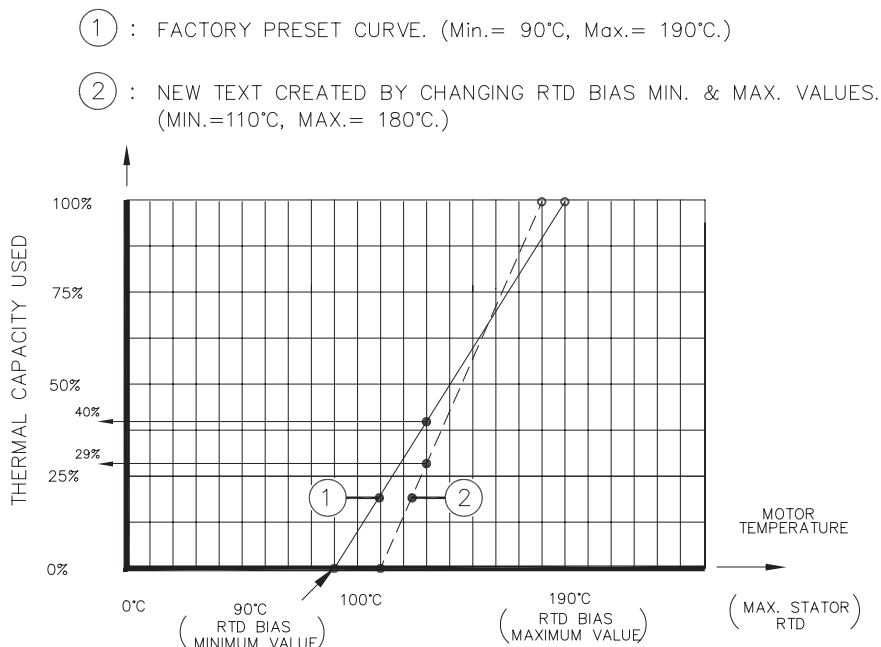

Figure 3-4 Hot Motor Thermal Capacity Reduction
When the hottest stator RTD temperature is included in the thermal memory (SETPOINTS mode, page 5; factory preset disabled) the maximum measured stator RTD temperature is used to bias the thermal memory. The thermal capacity available in the relay is reduced proportional to the RTD stator temperature. When the stator temperature is at the RTD bias curve maximum value (SETPOINTS mode, page 5) the remaining thermal capacity available will be reduced to 0%. The capacity will not be reduced at all when the RTD stator temperature is at the RTD bias curve minimum value or below (SETPOINTS mode, page 5). Between these extremes thermal capacity reduction increases linearly with the maximum stator temperature, as shown in Figure 3-4. The RTD temperature input to thermal memory can be enabled in SETPOINTS mode, page 5.
An example of how the RTD input to thermal memory affects the thermal capacity available is described below and illustrated in Figure 3-4. If curve 1 is used (i.e. factory preset values) and the stator temperature is 130 C, the available thermal capacity will be reduced to 59%. If the RTD bias curve minimum and maximum values are
changed to correspond to curve 2 in Figure 3-4 the result will be somewhat different. The thermal capacity available will be approximately 71% at 130 C. The thermal capacity available at any temperature between the RTD bias curve minimum and maximum values can be determined from the graph or calculated as follows:
When RTD input to thermal memory (SETPOINTS, page 5) is enabled and the Emergency Restart feature is used, thermal capacity will be reduced to 0% only for as long as the Emergency Restart terminals are held shorted (note: it may take up to 11 seconds for the "Thermal Capacity Used" display to change to 0%). When the Emergency Restart terminals are opened again the thermal capacity will change to what is used according to the maximum stator RTD temperature and Figure 3-4. Thus, momentarily shorting the Emergency Restart terminals with RTD input to thermal memory enabled may not reduce the thermal capacity used to 0% when the motor is hot.
**Note: If RTD input to thermal memory is enabled (SETPOINTS, page 5) the lock-out time may not be reduced to 0 minutes since the thermal capacity available is dependent on the RTD bias curve (Figure 3-4) and the maximum stator RTD temperature (see section 3.21).**